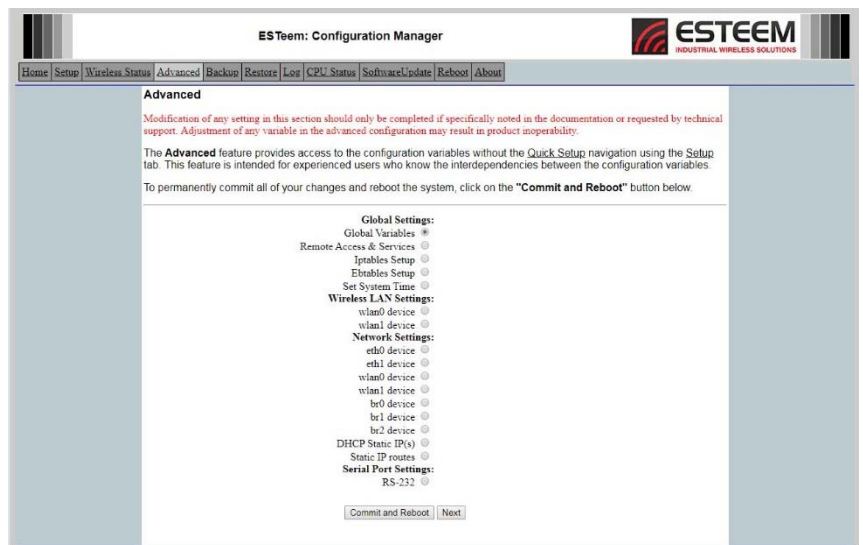
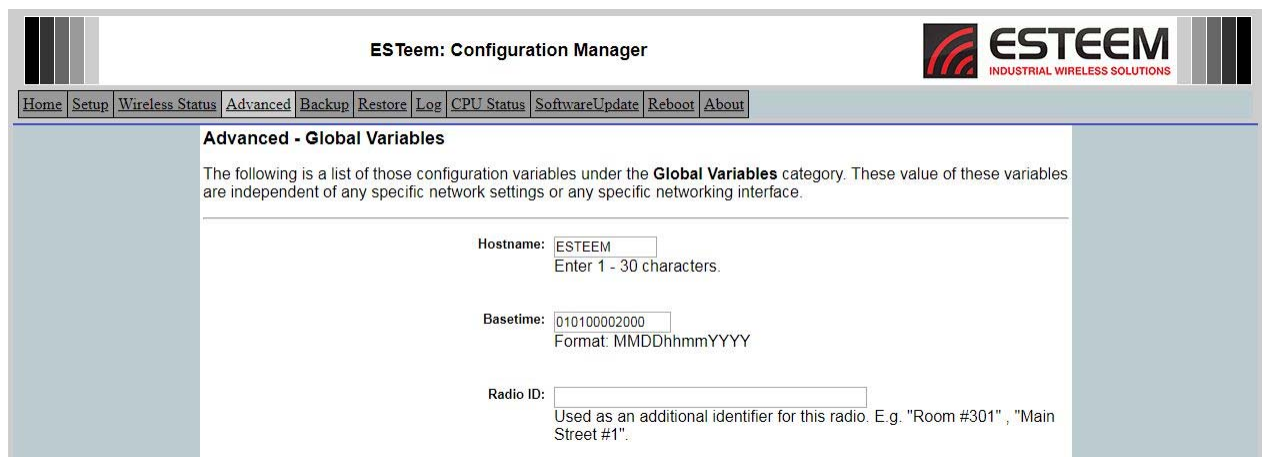

Figure 3: Advanced Global Settings Screen
Figure 4: Radio ID Field in Global Variables Screen
1. The Radio ID field can be adjusted under the *Global Variables* of the Advanced Menu tab (Figure 3). Select Global Variables and press the *Next* button. Figure 4 will be displayed.
2. Enter the text you would like displayed in the Radio ID field (Figure 4). When complete, press the *Save Settings* button and the *Commit Changes* button on the next screen to save the name to the Horizon.